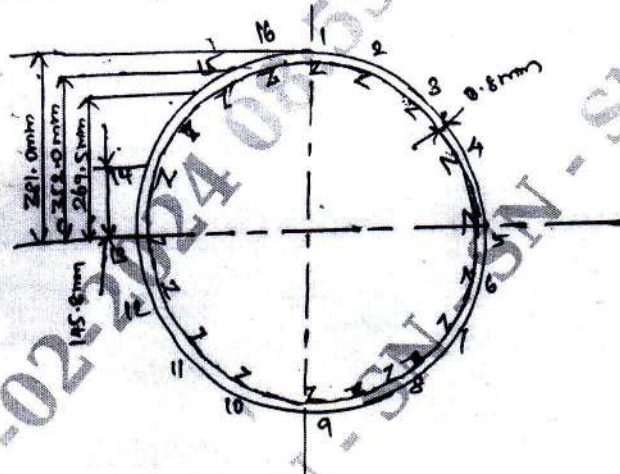

Fig. Q10 (a)
- 10 a. The fuselage of a light passenger carrying aircraft has the circular cross section shown in Fig. Q10 (a). The cross sectional area of each stringer is  $100 \text{ mm}^2$  and the vertical distances given in Fig. Q10 (a) are to the mid line of the section wall at the corresponding stringer position. If the fuselage is subjected to a bending moment of  $200 \text{ kNm}$  applied in the vertical plane of symmetry, at this section, calculate the direct stress distribution. (10 Marks)